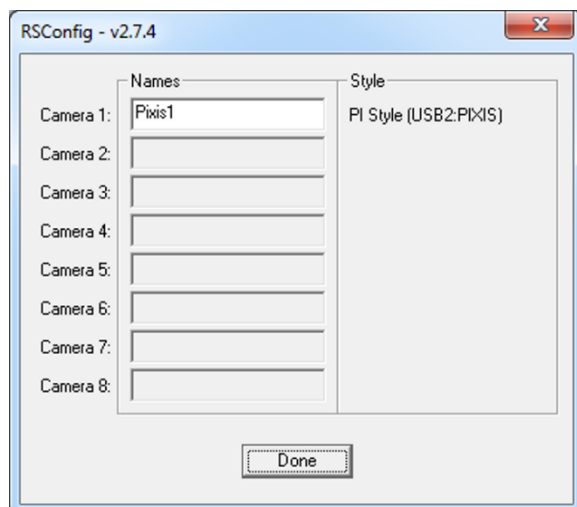

Figure 62: RSConfig Dialog Box
2. The *RConfig* utility is shown in Figure 62 below. If your camera's drivers have been properly installed and the camera is plugged in and turned on, it will show up under the list of cameras. Feel free to keep the default name (“Camera1”) or change it to something of your choosing. After you are finished choosing a name, simply click “*Done*” and your camera will be ready for use with *Synopticx*.